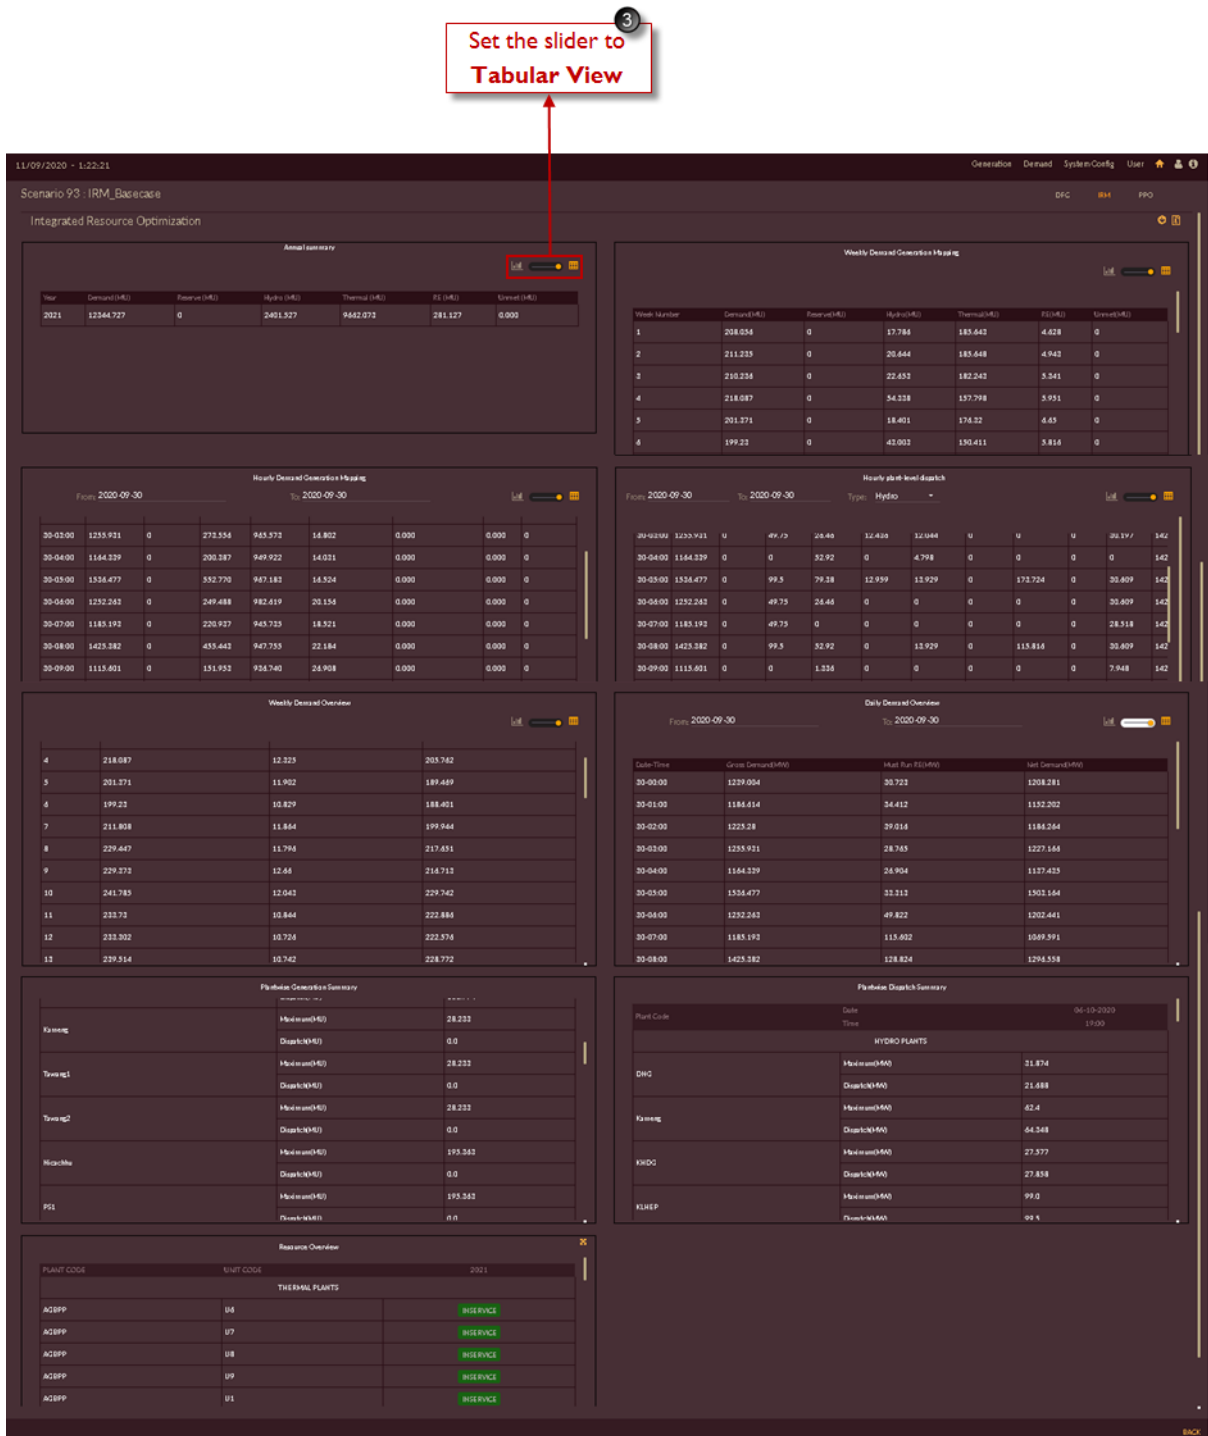

Figure 231. Results in Tabular Form
3. You can also view the graphical results in tabular form just by setting **Graph or Table** data slider to Tabular option. The same data appears as table as shown in Figure 231.